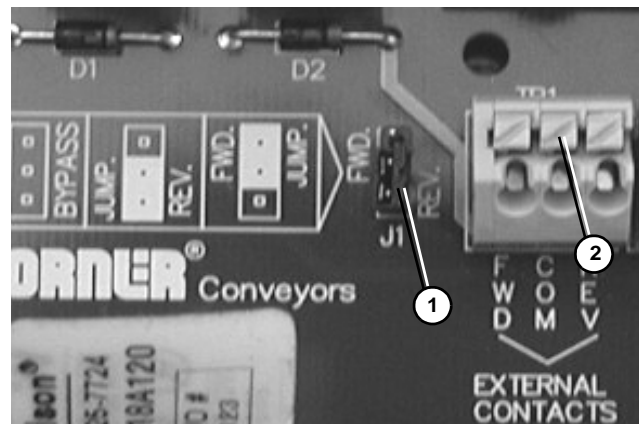

Figure 15
Remove the direction jumper 'J1' (Figure 15, item 1) from the pins. This jumper is not required.
Connect remote machine interface wires to the terminals labeled "External Contacts" (Figure 15, item 2).